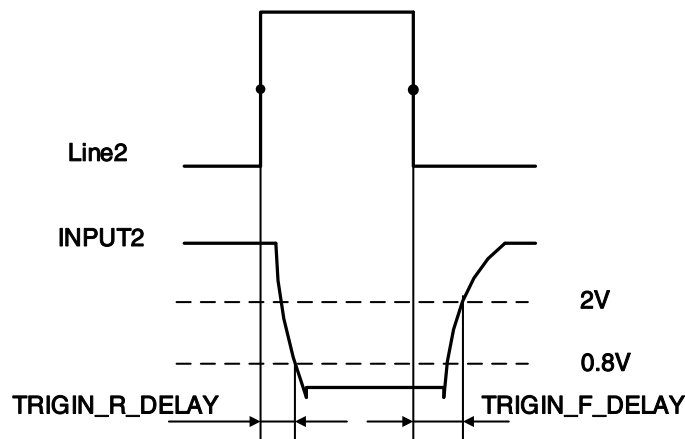

Figure 7-19 Parameter of Line2 input circuit
- Input rising time delay:  $<2\mu\text{s}$  ( $0^{\circ}\text{C}\sim 45^{\circ}\text{C}$ ), parameter description as shown in Figure 7-19
- Input falling time delay:  $<2\mu\text{s}$  ( $0^{\circ}\text{C}\sim 45^{\circ}\text{C}$ ), parameter description as shown in Figure 7-19